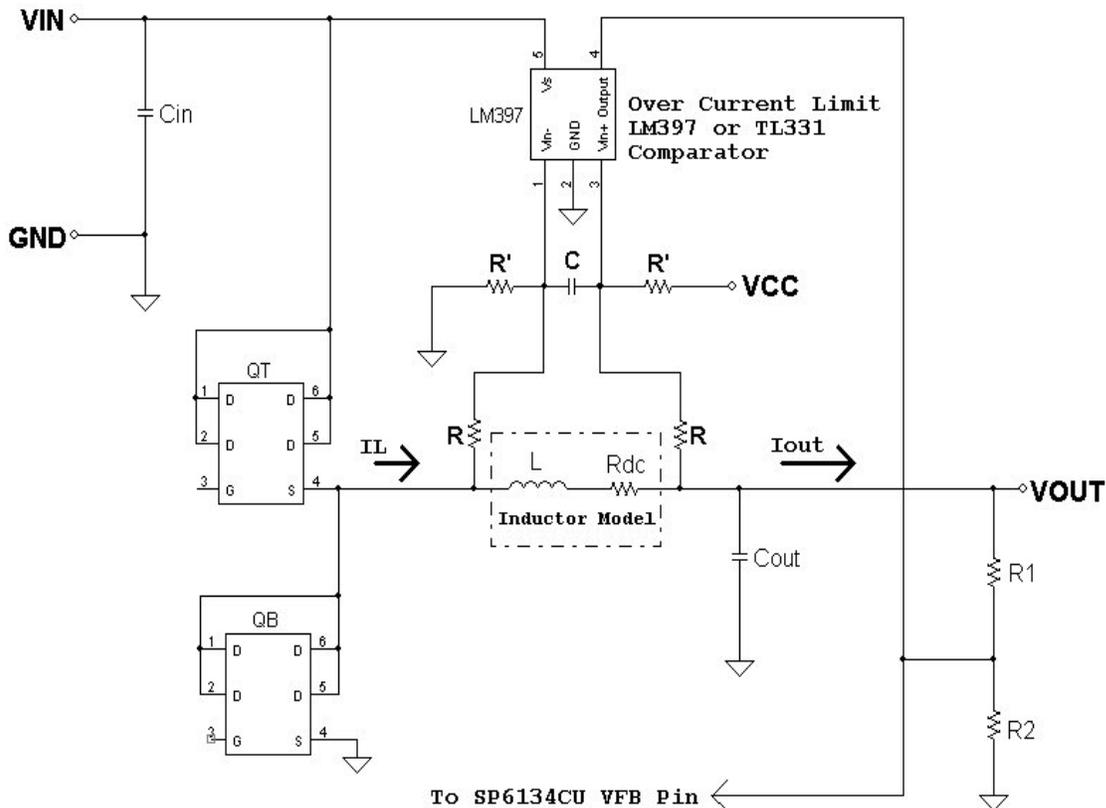

Figure 14. Simple Over Current Clamping Protection Circuit Block Diagram
The SP6134CU provides short circuit protection by sensing the output voltage at ground. However for a better and robust over current clamping protection, a comparator circuit could be used. A simplified over current clamping circuit block diagram is shown on Figure 14. The output current clamping threshold and RC filter time constant resistors and capacitors component selections are approximately by the following equations (1) and (2).